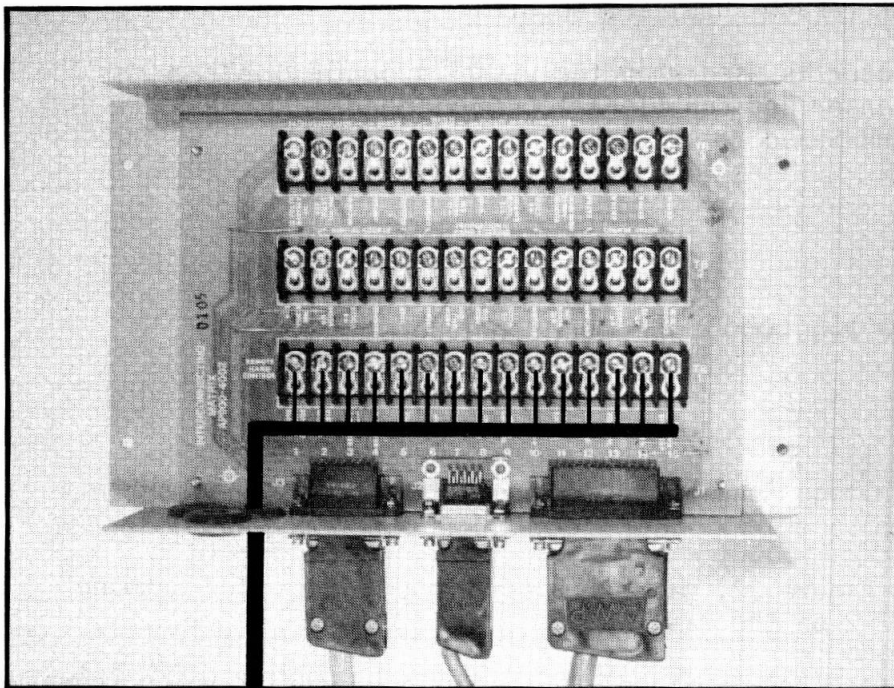

FIGURE 40. WIRING THE RHC INTO THE MATRIX
4. Route the cable through one of the grommets on the Matrix. Refer to Figure 40, page 34 for instructions on wiring the RHC into the Matrix. Follow the General Wiring Instructions on page 16, Section 2.1.